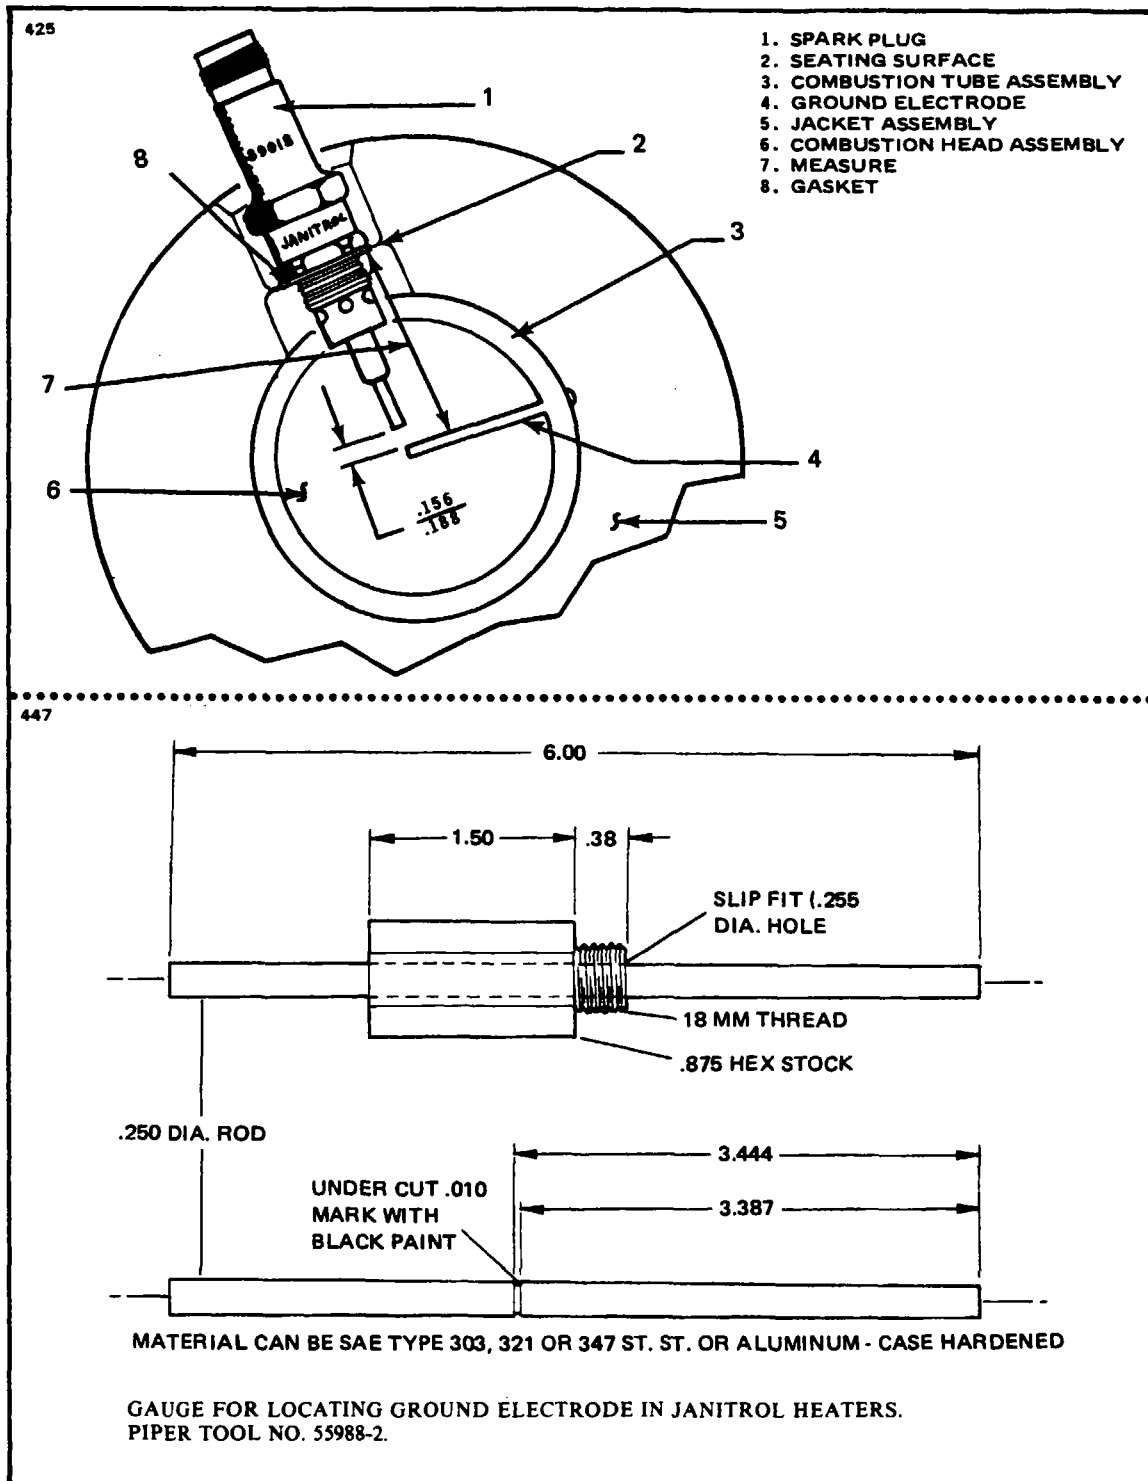

Figure 13-44. Spark Plug Gap Adjustment and Tool
1. If the spark plug appears to be in good condition, except for a mild coating of oxide on the porcelain and electrode, it may be cleaned and reused. Cleaning is accomplished on a conventional airplane type spark plug cleaner, except that it will be necessary to use two or more adapters in order to raise the long extension of the plug far enough out of the cleaner nozzle opening to perform an effective job. Plug the ceramic insert cavity at the terminal end of the plug with a piece of paper or cloth to keep out any of the cleaning sand. Wipe this cavity out thoroughly with a cloth wet with carbon tetrachloride. If after cleaning the spark plug porcelain is white and the electrode is not eroded, proceed to check the ground electrode in the heater and adjust the spark gap in accordance with paragraph 13-160, c and Figure 13-44.
1. Fabricate or purchase from Piper, the special tool from dimensions given in Figure 13-44.